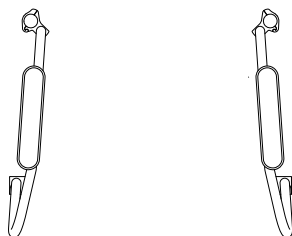

Fig. 13
5. If you position the clamps further to the inside, the width of the back seat will be reduced. (Fig. 13).